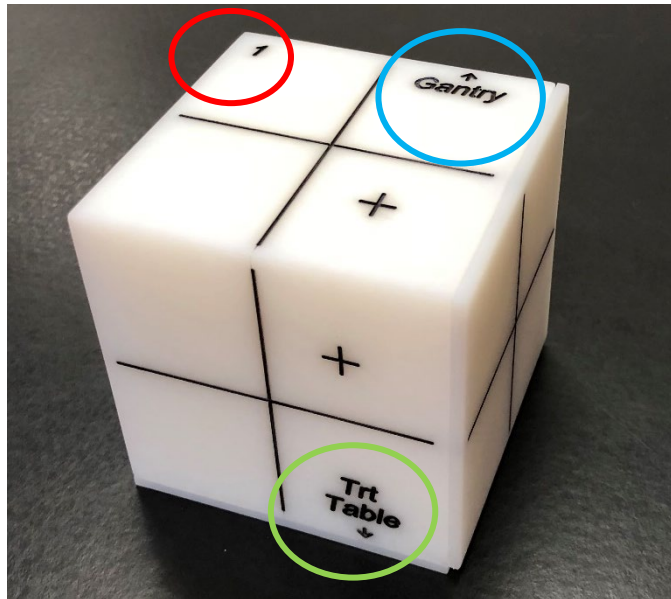

Figure 1: The IGRT remote audit cube phantom
This phantom tests two things: 1) your IGRT system's ability to image an object on the couch and align it with the imaging isocenter and 2) the coincidence of the imaging and radiation isocenters. The box you received contains a cube phantom (Fig 1) for each IGRT-capable machine or beamline in your clinic. The cubes have a ball bearing in the center and are loaded with radiochromic film. **DO NOT disassemble the cube.**
2. Set the cube phantom on the treatment couch ensuring that the arrow labeled "Gantry" (circled in blue in Fig 1.) points in the superior direction and the arrow labeled "Trt Table" (circled in green in Fig 1.) points to the treatment table. Align the cube using the lasers to the crosshairs on the cube (+) which are offset from the center of the cube phantom. The phantom should be square with the radiation field (i.e., normal incidence of the beams on
the faces of the phantom). The cube number (circled in red in Fig 1.) will be on the top of the phantom. **Use the numbered cube assigned to the treatment room that you are using.**